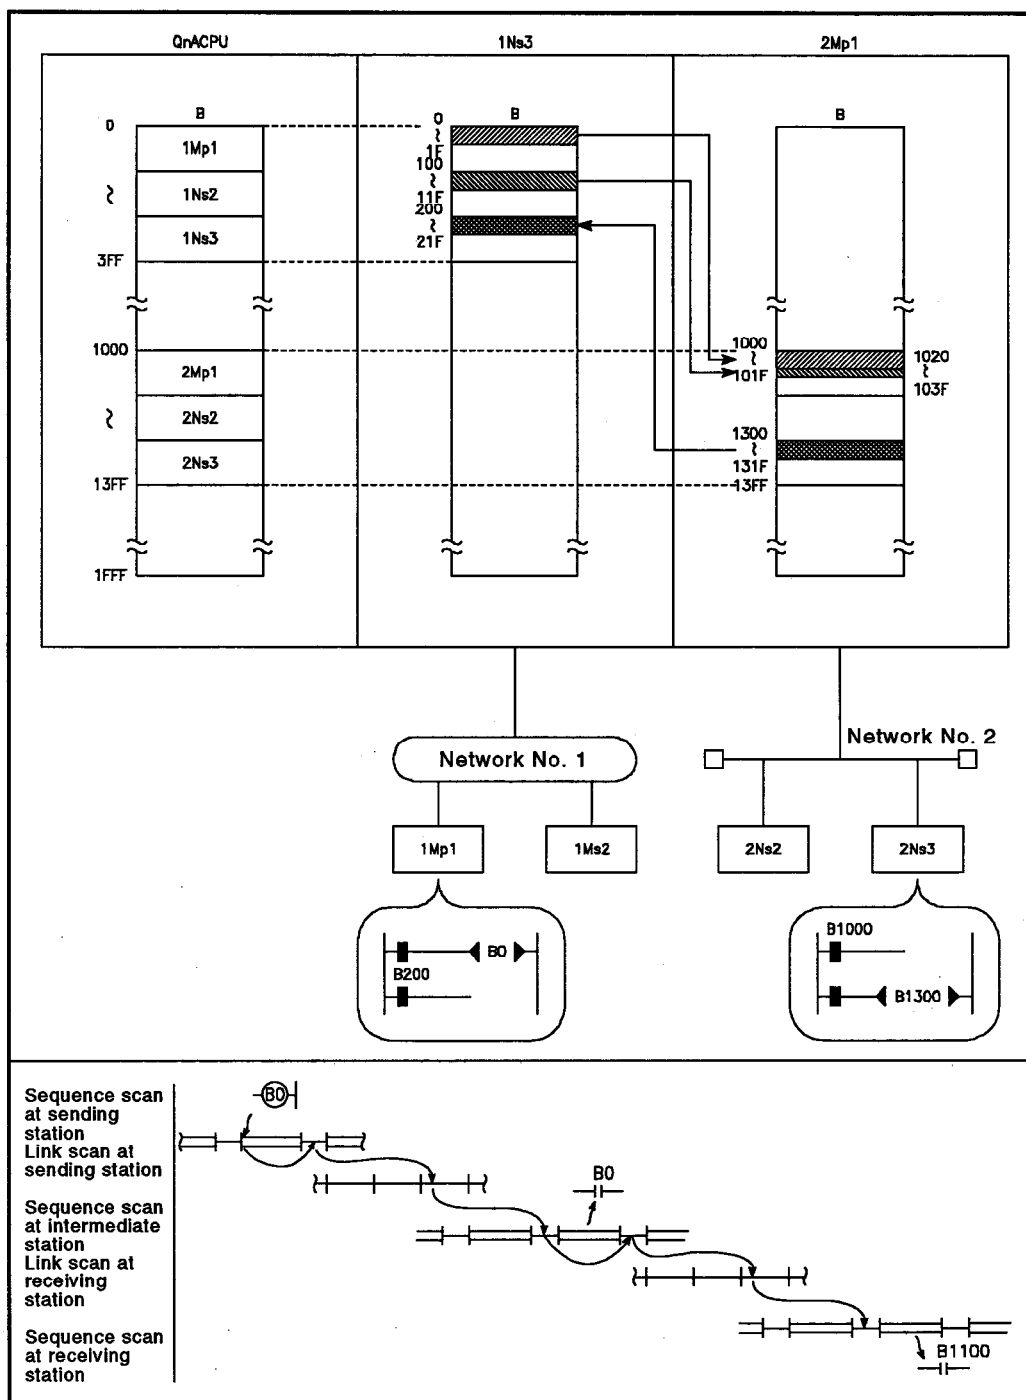

Fig 8.1 Transmission Delay in Inter-Data Link Transfer
This is the time taken for the data to be transmitted from the station in which it is written (the sending station) to the intermediate station, which transmits data between data links; to take the example in Fig. 8.1, this is the time taken for the transfer of data from station 1Mp1 to station 1Ns3. Calculate this processing time by using the formula for calculating the transmission delay time in a two-tier system given in section 8.1.2 (1) (a).
This is the time taken for the data to be transmitted from the intermediate station to the station that will read the received data (receiving station); to take the example in Fig. 8.1, it is the time taken for the transfer of data from station 2Mp1 to station 2Ns3. Calculate this processing time by using the formula for calculating the transmission delay time in a two-tier system given in section 8.1.2 (1) (a).